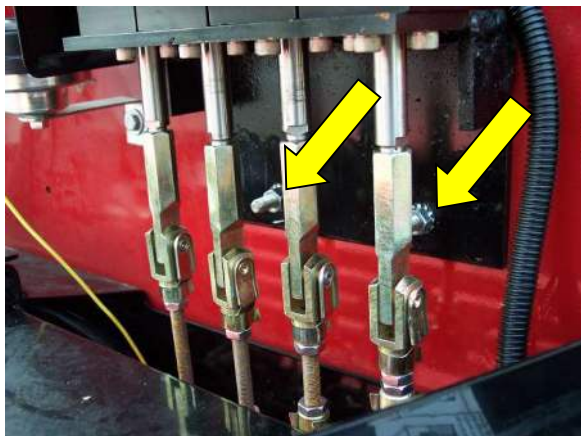

FIG. 3a
4. Mount the actuator assembly to the turret just above the valve bank using the two holes available and hardware provided (FIG. 3a)